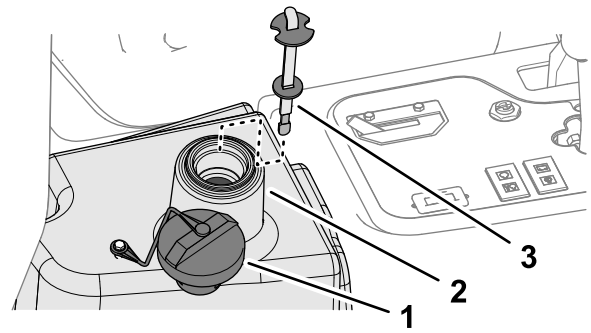

Figure 87
2. Clean the area around the filler neck and cap of the hydraulic-fluid tank (Figure 87) and remove the cap.